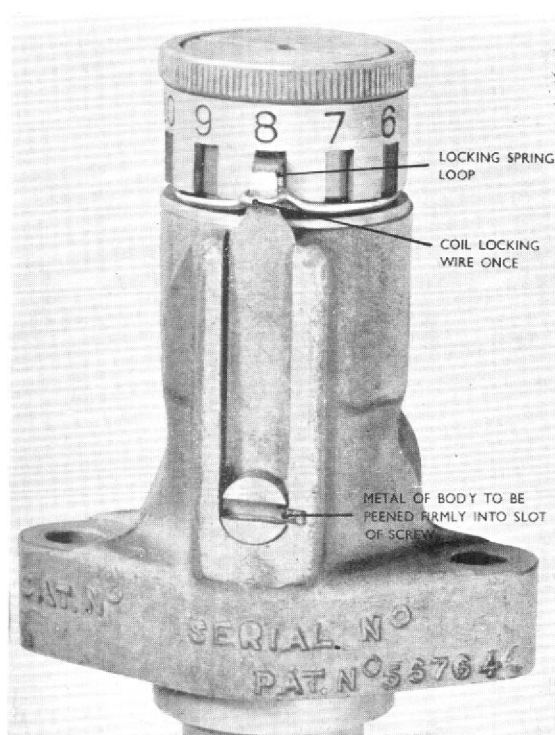

Fig. 3. Locking of locking spring and screw.
- (b) Ensure that the output adjustment locking spring (12) is sprung firmly home into the relative notch on collar (3), has not been strained, that the peening into the screw driver slot of screw 14 is secure, and that non-corrodible locking wire (D.T.D.189) is fitted through the loop in the locking spring (12) and is bound tightly in position around the adjusting head of the pump (Fig. 3 and 4).
- ii. For pumps undergoing engine or rig tests the adjustment should be set to the notch on collar (3) as found necessary according to output required. See Testing paragraph. (Page 8).
- iii. Ensure that the locking wire is placed in position through the loop of leaf spring (12) and bound firmly around the collar (3). (Fig. 3 and 4).
- (d) Ensure that the sealing ring fits snugly under the mounting flange of body (8). It is highly important that the inlet hole adjacent to the flange face should not be obstructed, and great care should be taken in this operation.
adjuster plug at No. 7 setting or at the notch found necessary as mentioned herein, on pumps which have been in service, by passing locking wire tightly through the lock spring (12). (Fig. 3 and 4).